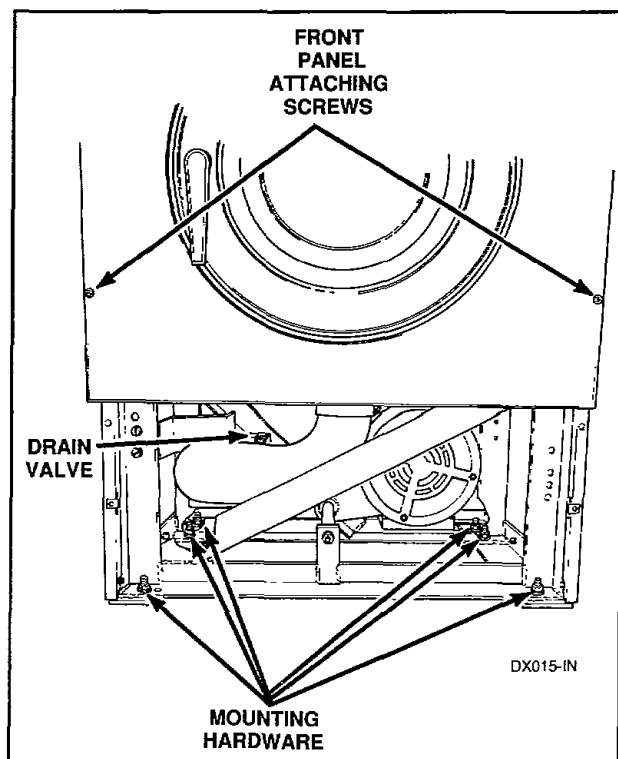

Figure 20
- e. Reach in through front of washer and remove the mounting hardware, *Figure 20*, holding washer to concrete or base.